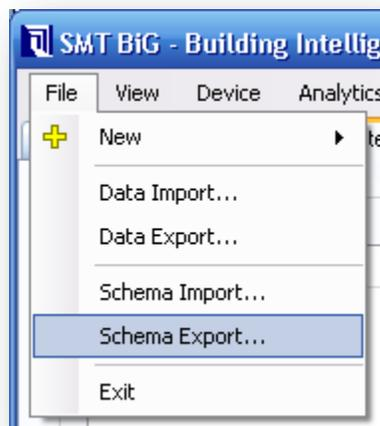

Figure 10-1 - Export the schema to a file using the File menu
1. In the main window's menu, choose *File* → Schema Export... (see FIGURE 10-1)